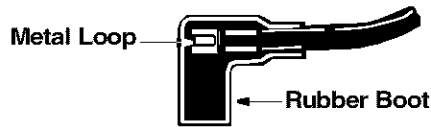

Figure 12
- Attach spark plug wire to spark plug. Make certain the metal loop on end of the spark plug wire (inside the boot) is fastened securely over the metal tip on the spark plug. See Figure 12.